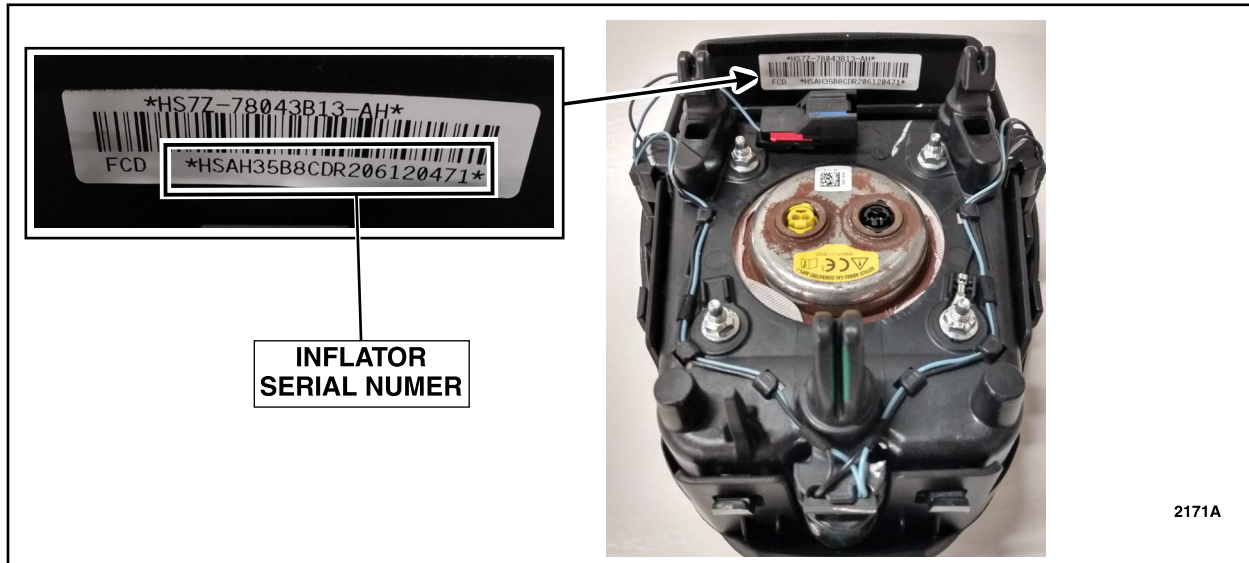

FIGURE 1
2. Record the 20 character serial number of the *new* airbag inflator on the repair order. See Figure 1.